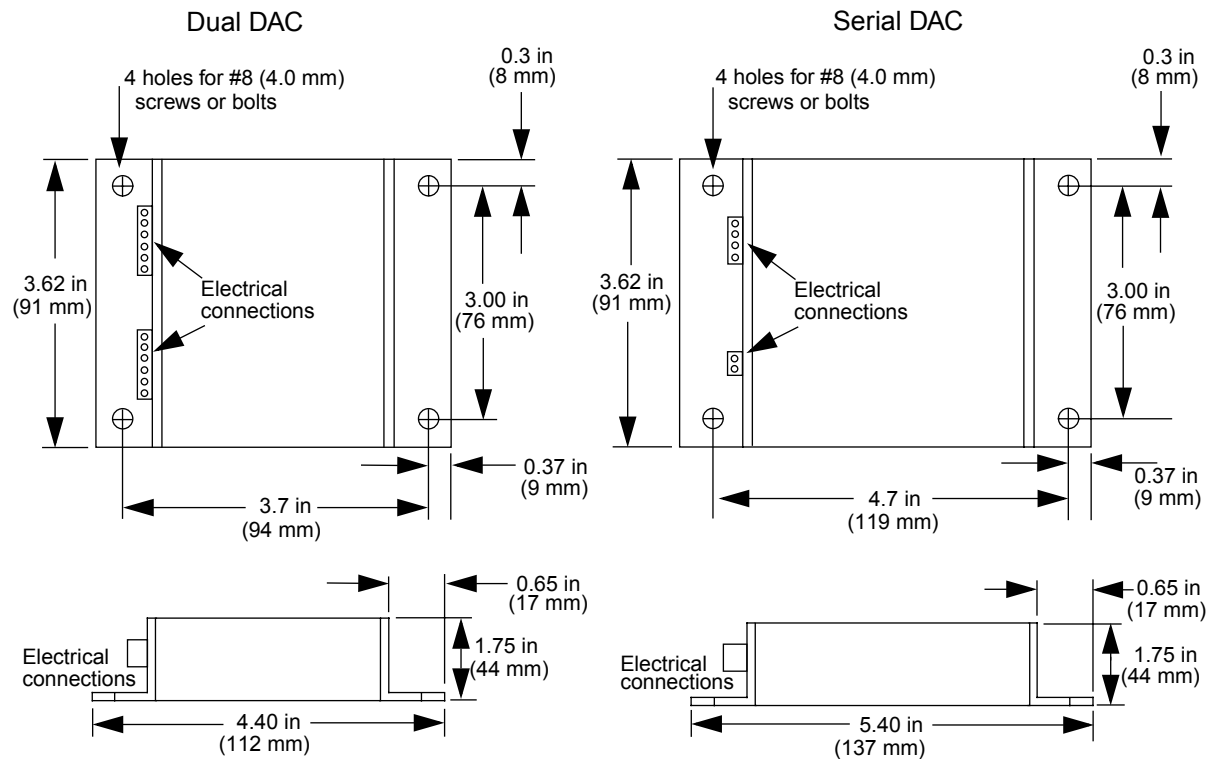

Figure 2.11 Dual DAC and Serial DAC Dimensions
2. Mark and drill four holes for screw mounting. Holes accommodate #8 (4.0 mm) size screws. See *Figure 2.11* for screw locations. Install the unit with the four screws.